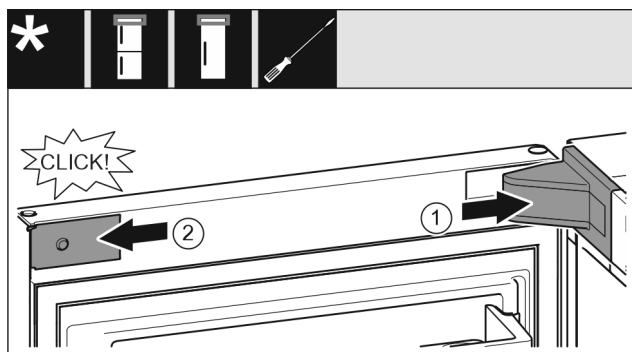

Fig. 20
- Put the swap bearing block cover Fig. 20 (1) on and engage, push apart carefully if required.
- Place the trim Fig. 20 (2) on the side and engage.